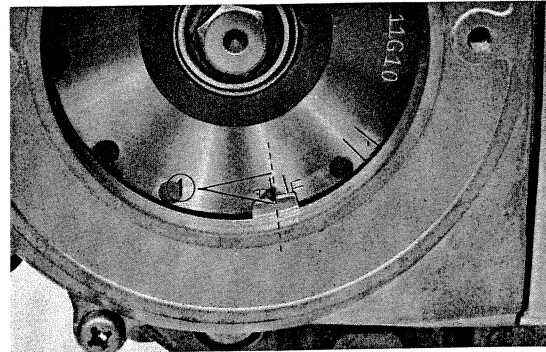

Fig. 1 ① "T" aligning mark
- 5) Turn the crankshaft so that the "T" (timing) mark aligns with index mark on the stator and the piston is in the compression stroke. The piston in the compression stroke can be determined by feeling rocker arms for clearance. (Fig. 1)